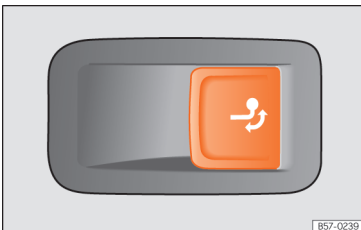

Fig. 184 Right side of the luggage compartment: button to unlock the tow hitch.
- Pull the »» Fig. 184 button briefly. The tow hook unlocks electrically and automatically turns outwards. The button's control lamp flashes.
- Pull the »» Fig. 184 button briefly. The tow hook unlocks electrically.
- Never press the button »» Fig. 184 when there is a trailer hooked to the vehicle or when a carrier system or other accessories are mounted on the tow hook.